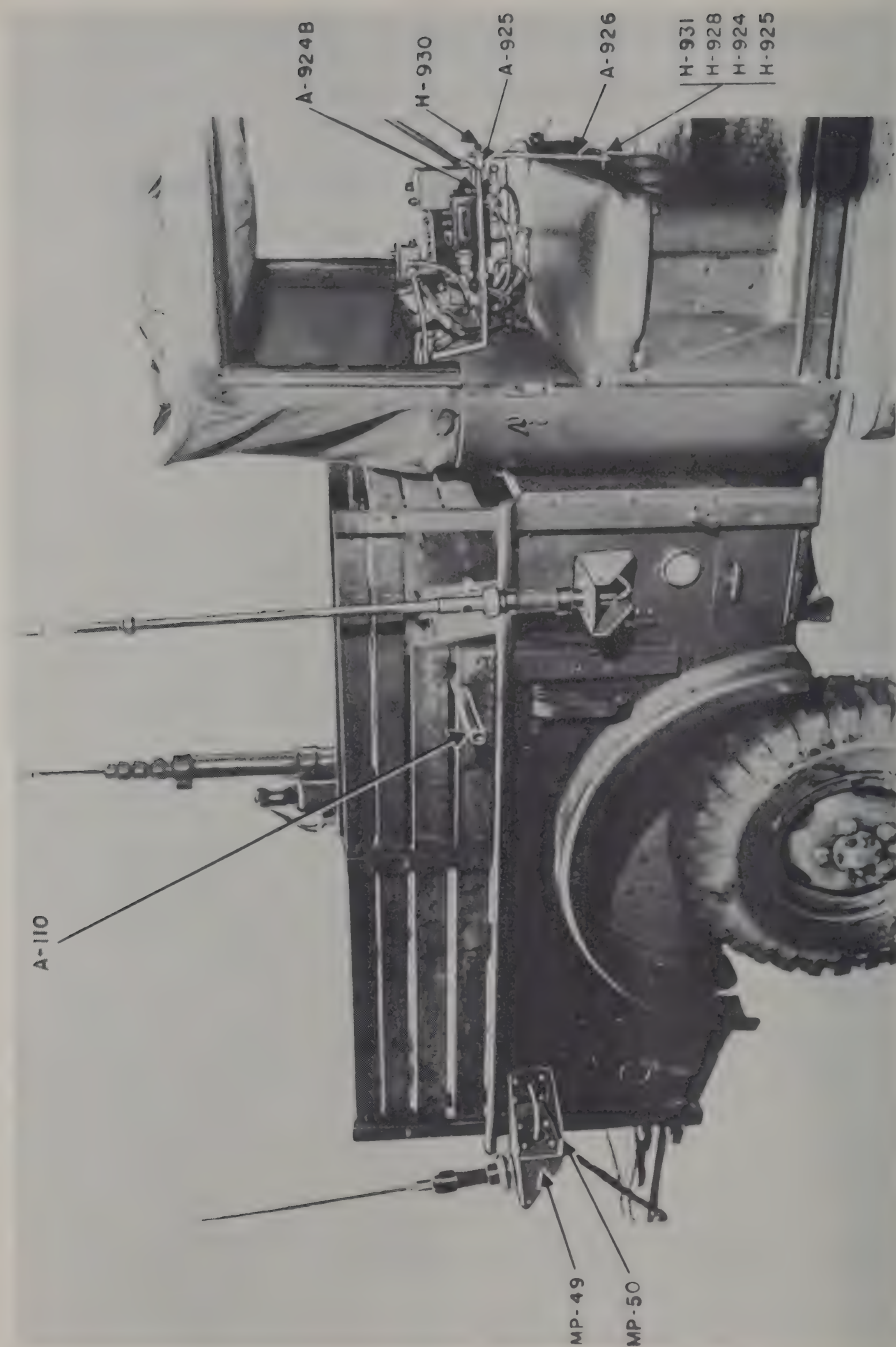

Figure 3-4. AN/MRC-20 Mounted in M-37 Truck, Right Side
a. Remove the spare tire and fold back and secure the wooden seats (see figures 3-4, 3-5 and 3-6).
3-24. CONTROL GROUP PANEL AND PANEL MOUNT. The control group mounting MT-1361-MRC/20 is installed in the cab of the M-37 truck just to the right of the drivers seat (see figure 3-4).
a. Position the A-702 MP-50 mounting assembly near the front corner of the truck right side wall 8-1/2 in. back from the front corner and 11 in. above the bottom edge (see figure 3-4) so that the 1 inch center hole